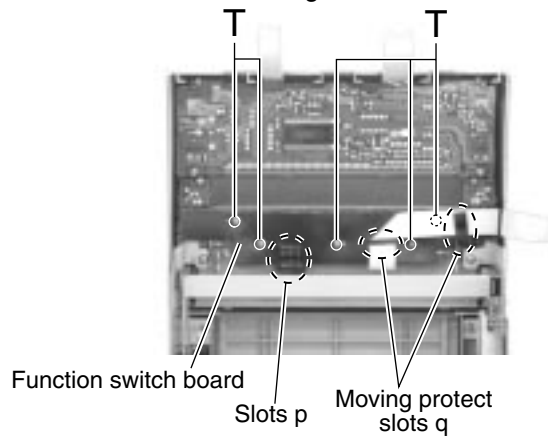

Fig.37
■ Removing the function switch board (See Fig.37)
REFERENCE: To reattach the function switch board (See Fig.37 to 40)